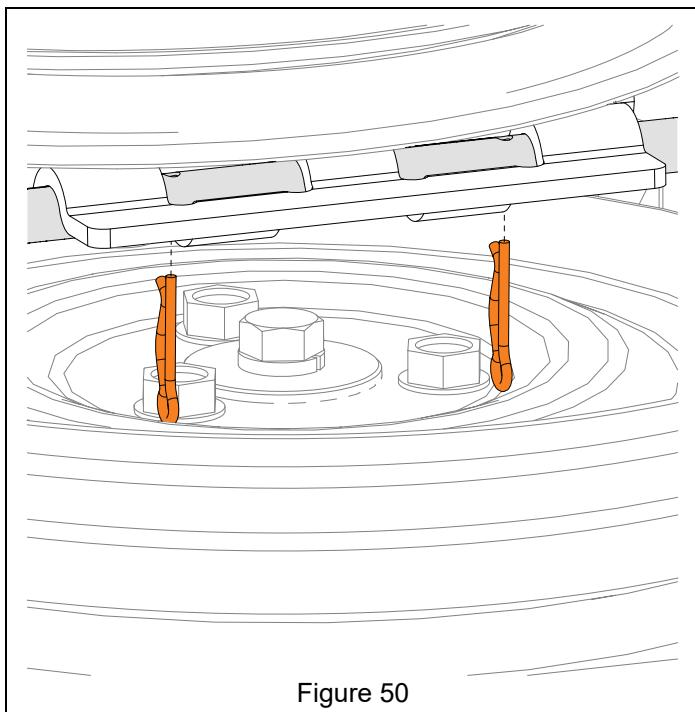

Figure 50
4. Secure swing gate assembly to pivot rod with two hairpins inserted curved side up at 90-degree angles to the gate. See Figure 50.